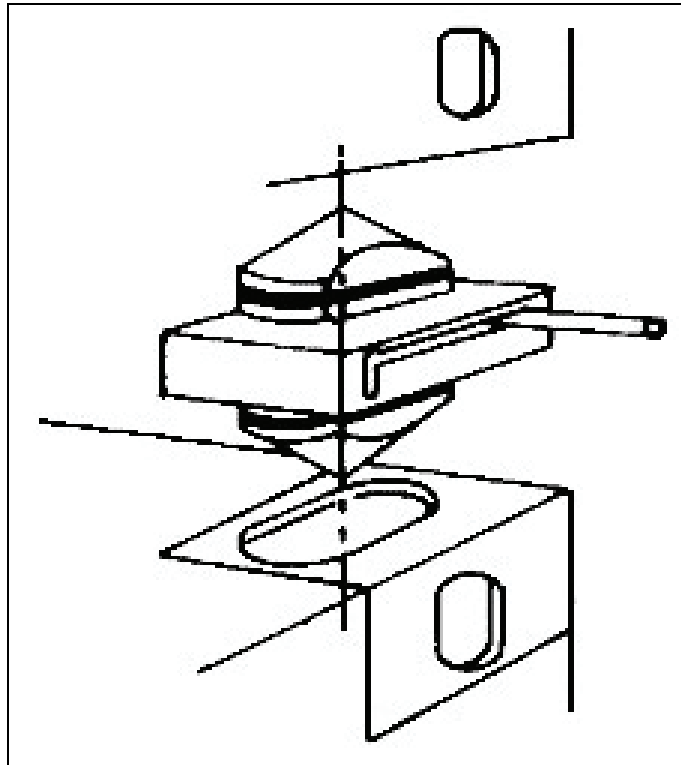
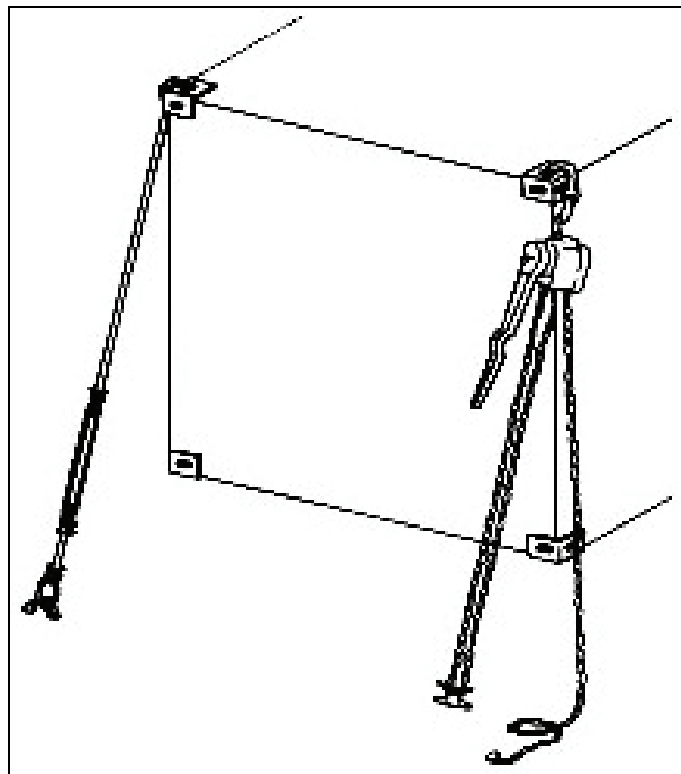

Figure 3-125. Stack Fitting Twist Lock Devices
Figure 3-126. Lashing Assemblies
5. Ensure personnel install stack fitting twist lock devices between containers when stacking (see Figure 3-125).
6. Ensure personnel stack containers no more than three (3) high.
7. Ensure personnel attach lashing assemblies to front and rear of containers (see Figure 3-126).